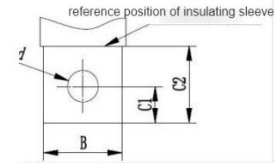

Figure 4 Copper busbar and hole dimensions
6.3 For copper busbar connections, the busbar and hole dimensions are shown in Figure 4 and Table 6.